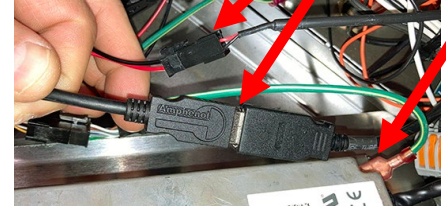

Figure 19
- Attach the speaker wire, the ground wire and the USB with the sleeve to the USB extension, if the controller is in the far-left position on the fryer (see Figure 19).